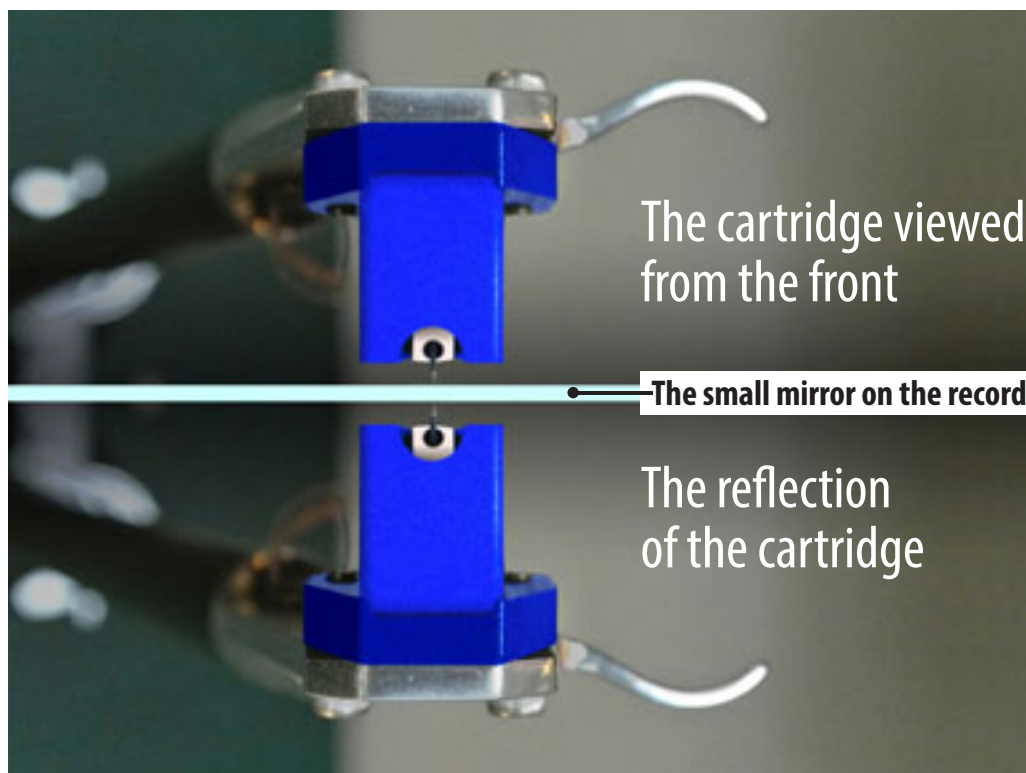

Fig. 21. Azimuth front view
When grooves are cut the cutter head is perpendicular to the record surface. To obtain the best playback we need to recreate the same situation. So our cartridge should be as in Fig. 21. Otherwise the groove walls will not be read accurately.
7. Azimuth – Fig. 21 (page 14)